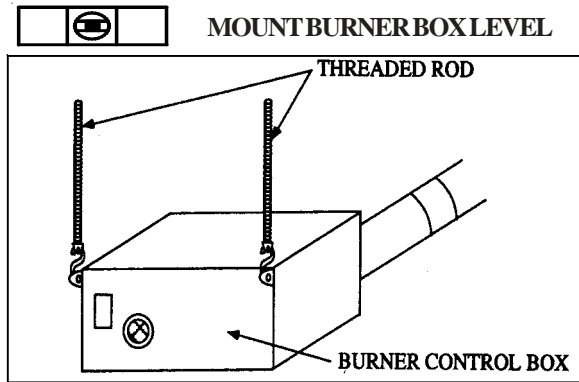

Fig. 2-6
**NOTE:** If windy conditions exist in the space around the heater, it may be necessary to rigidly mount the heater to prevent swaying. It is recommended that threaded rod be used for the two hanging points at the burner control box (see figure 2-6). The remaining hanging points should use chains to allow for heater expansion.